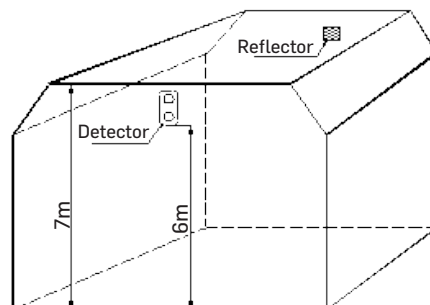

Fig.4
b) As the space height is between 5m and 8m, the detector and reflector/s should be mounted on the walls which are opposite, having about from 0.5m to 1m from the ceiling. Refer to Fig. 4.